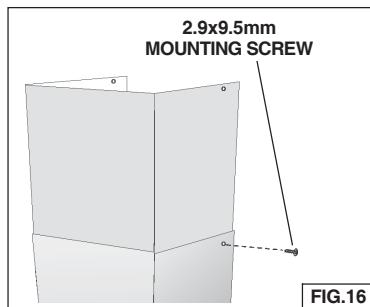

FIG.16
- Secure the lower flue to the upper flue with (1) 2.9x9.5mm mounting screw. Drill the hole (1/16" Diameter) in the upper flue. Fig. 16.